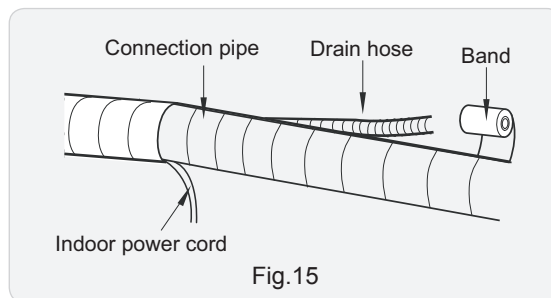

Fig.15
- Reserve a certain length of drain hose and power cord for installation when binding them. When binding to a certain degree, separate the indoor power and then separate the drain hose. (As show in Fig.15)